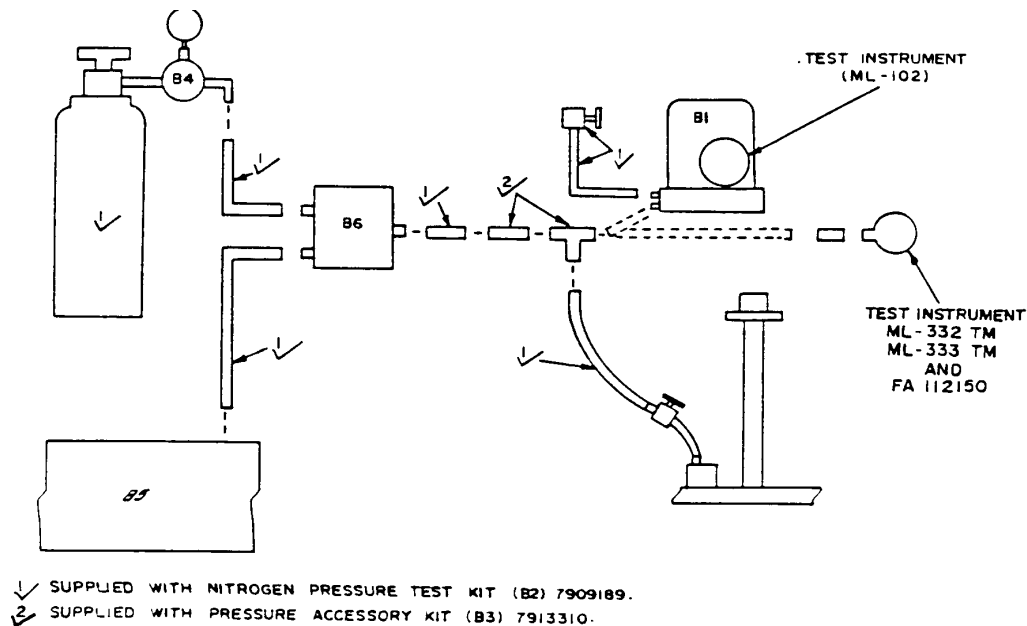

Figure 1. Test instrument - equipment setup.
- d. Connect equipment as shown in figure 1. Use appropriate connections for model being calibrated.
(1) Connect equipment as shown in figure 1.
(2) Adjust vacuum regulator (B6) for a 900-millibar indication on TI. Record indication on barometer (A1).
(3) Adjust vacuum regulator for a 800-millibar indication on TI.
(4) Turn off vacuum pump (B5) and slowly vent TI until TI again indicates 900 millibars.
(5) Barometer will indicate the value recorded in (2) above within the limits specified in table 1.